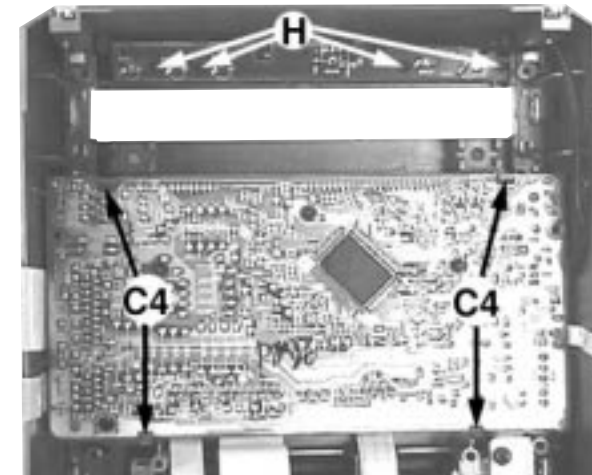

Figure 13
- 7) Uncatch 4 catches C4 (see Figure 13) to remove the Display Board (pos 1105A).
- 8) Loosen 4 screws H (see Figure 13) to remove the Top Key Board (pos 1105C).